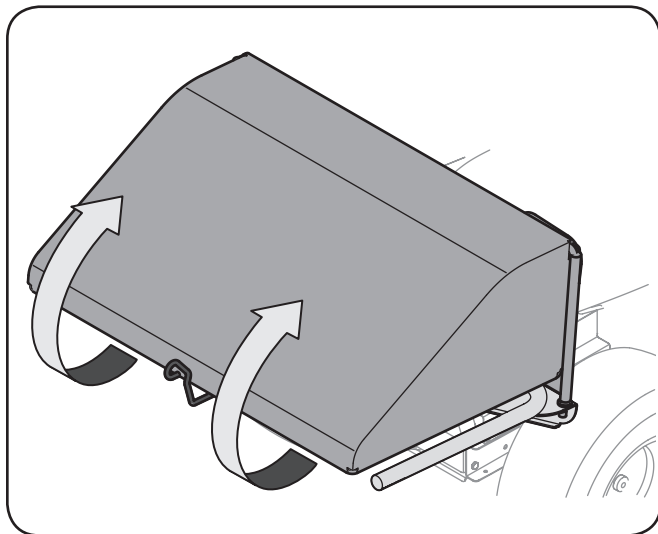

Figure 5-1
1. Open the grass bag cover by lifting the lower rear of the cover and pivoting it upwards. See Figure 5-1. It is not necessary to remove the discharge chute in order to empty the grass bags.